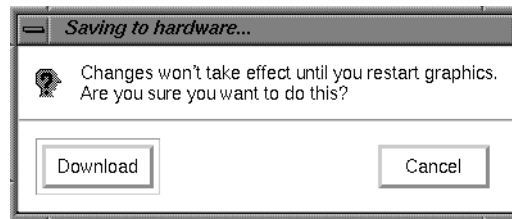

Figure 3-16 Saving to Hardware Dialog Box
10. Click the *Download* button (see Figure 3-16).